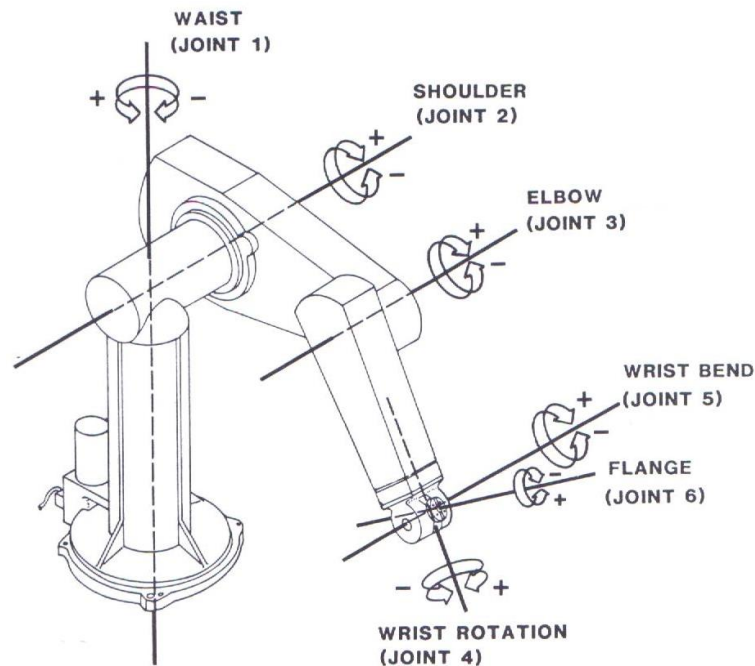

FIGURE 1. PUMA ROBOT CONFIGURATION
Suppose you are in charge of choosing the dimensions a PUMA robot for a given task. The robot you are designing must have the configuration of a PUMA robot (6 axis, RRRRRR) (see Figure 1), but you are free to choose the lengths and offsets of each of the links.
- 2) Determine the modified DH parameters for the PUMA robot of Figure 1. NOTE: parameters like link offset (d) or link length (a) should be assumed intuitively in this first iteration step. Joint twist( $\alpha$ ) can be determined from the figure
- Working position as the one shown in the figure 1.